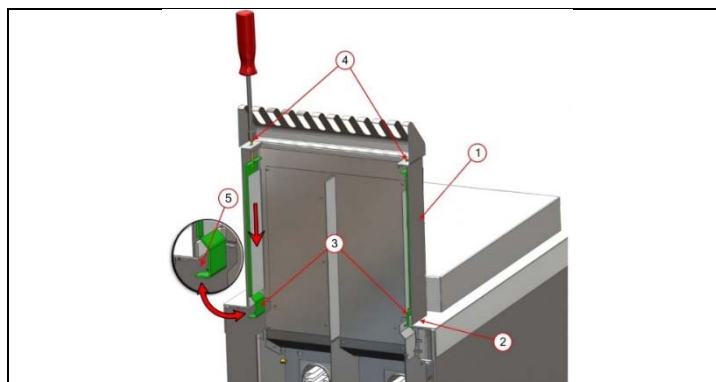

Fig. 3.
- Loosen the screws (Fig. 3 – Mark 4), to release the fixing fasteners (Fig. 3 – Mark 3) located on the left and right underside the flue.
- Align the flue with the hole of the combustion gas circuit (Fig. 3 – Mark. 2), slide the fasteners under the top of the appliance (Fig. 3 – Mark. 5).
- Tighten the screws (Fig. 3 – Mark. 4) to secure position of the flue.